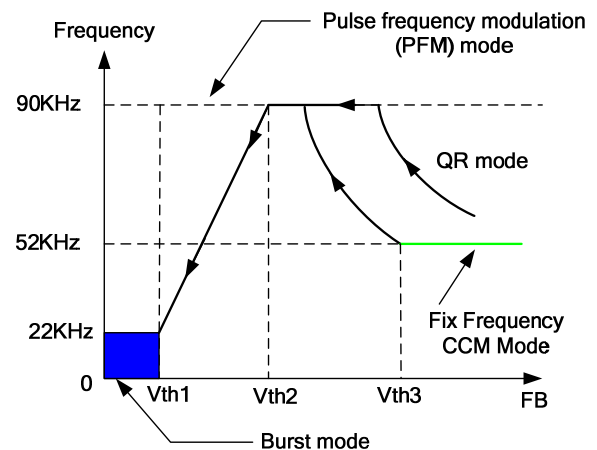

Figure 1
■ At full load conditions ( $V_{FB} > V_{th3}$ , Figure 1), there are two situations: firstly, if the system input is in low line input range, the IC operates in fix frequency (52KHz @  $R_{I}=20K\ \Omega$ ) CCM mode. Thus, small size transformer can be used with high power conversion efficiency. Secondly, if the system input is in high line input range, the IC operates in QR mode. In this way, high power conversion efficiency can be achieved in the universal input range when system is at full loading conditions.
■ At normal operating conditions ( $V_{th2} < V_{FB} < V_{th3}$ , Figure 1), the system operates in QR mode. The frequency varies depending on the line voltage and the load conditions. Therefore, the system may actually work in DCM when 90KHz frequency clamping is reached.
■ At light load conditions ( $V_{th1} < V_{FB} < V_{th2}$ , Figure 1), the system operates in PFM (pulse frequency